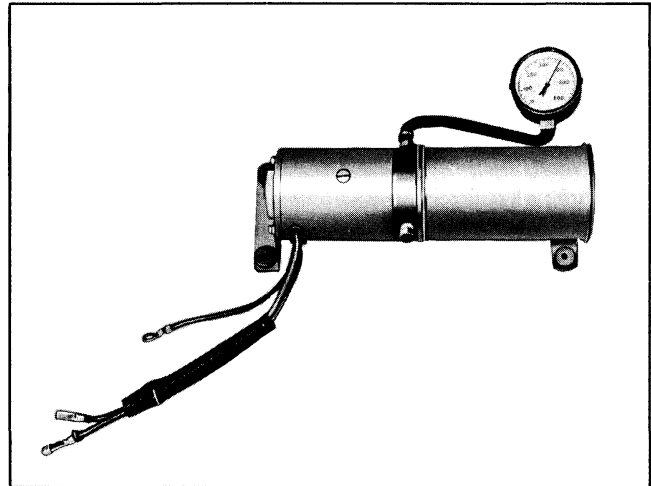

Fig. 22-67 Checking Pump Pressure
- b. Install plug in one port, and pressure gauge in port to be checked (Fig. 22-67).